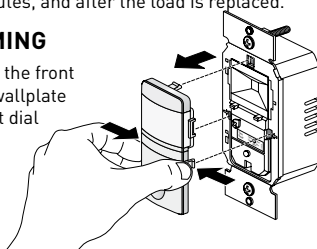

Fig 5: Remove Front Cover
2. Firmly grasp the edges of the front cover directly below the lens where it says "open" (see Fig. 5). Push in one side first until it pops out, then the other side. Remove front cover from the unit.
2. Firmly grasp the edges of the front cover directly below the lens where it says "open." Push in one side first until it pops out, then the other side. Remove front cover from the unit (see Fig. 5).